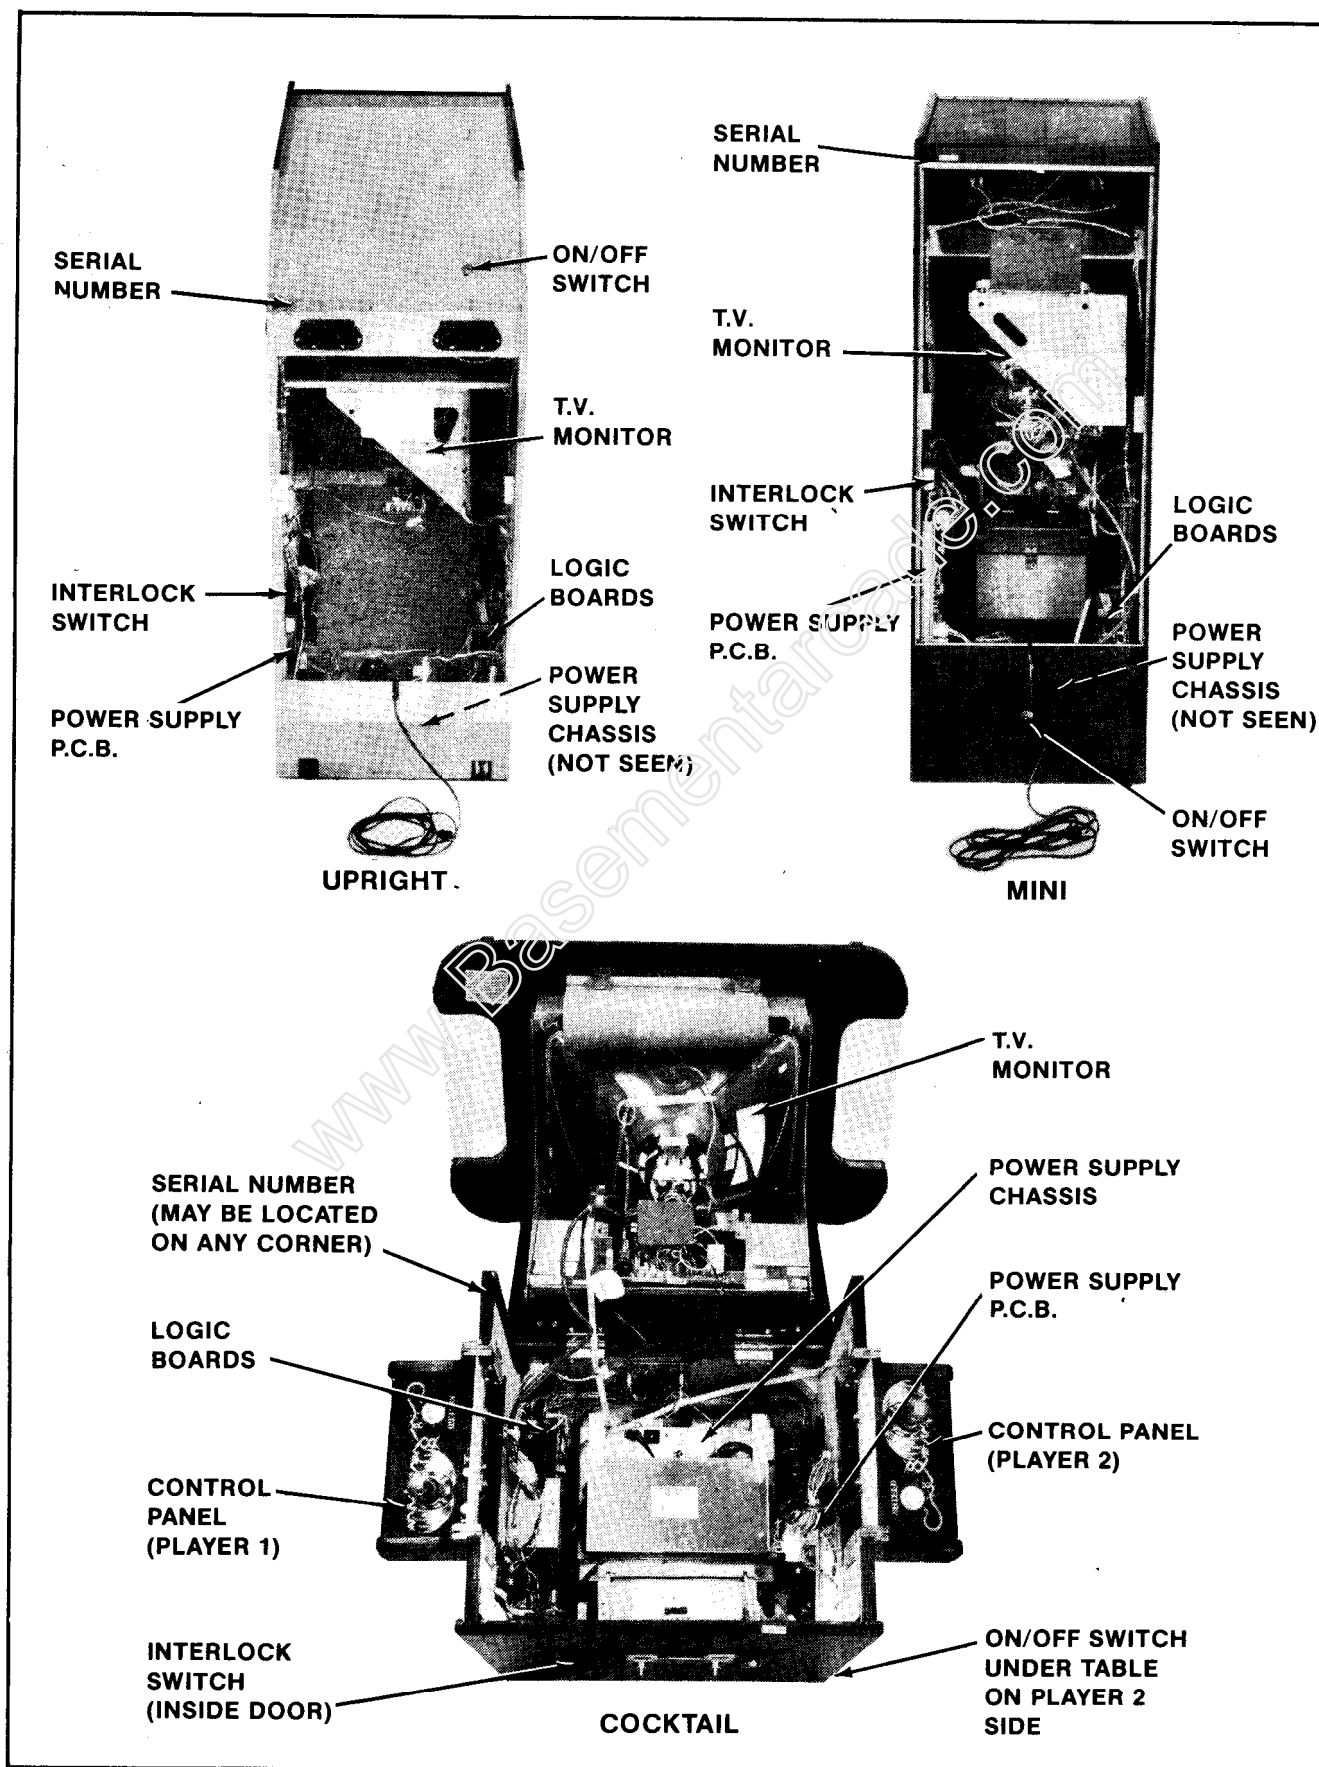

Figure 1-1 Location of Serial No., Interlock Switch, On/Off Switch, & Major Sub-Assemblies
5. Open the cabinet and inspect the inside of the game for any signs of damage. See Figure 1-1.
- ☐ Make sure all printed circuit boards (P.C.B.'s) are firmly seated in their connectors. See Figure 1-1. These connectors are also keyed. The P.C.B.'s will only go into them one way without being damaged.
- ☐ Note the location of the game's serial number. See Figure 1-1.
- ☐ Check all major subassemblies to be sure they are mounted securely. These are called out in Figures 1-1 & 1-2.
## 3. Interlock and power ON/OFF switches. See Figure 1-1.
The game ON/OFF switches for all models are located as shown in Figure 1-1. Turn the game on and allow it to warm up a few minutes.